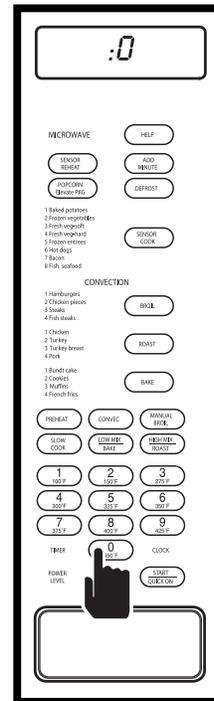

Figure 3-66.
2. Press the number 0 key, ":0 - PRESS - CLOCK" will flash on display (See Figure 3-66).